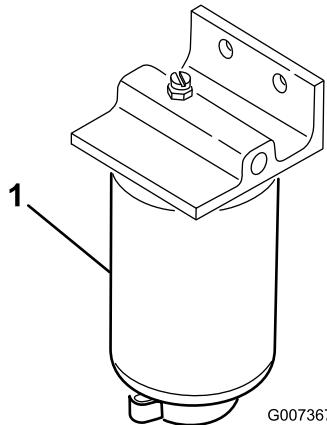

Figure 78
1. Place a clean container under the fuel filter (Figure 78).